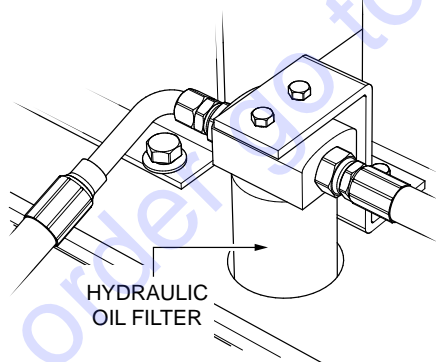

Figure 45. Hydraulic Oil Filter
1. Replace the hydraulic oil filter (Figure 45) every 200 hours. Replace with only recommended type filter.